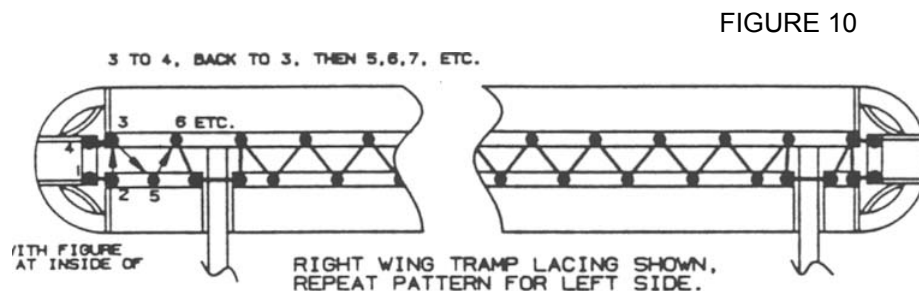

FIGURE 10
8.4 Lace the wing tramp as shown. (FIGURE 10)